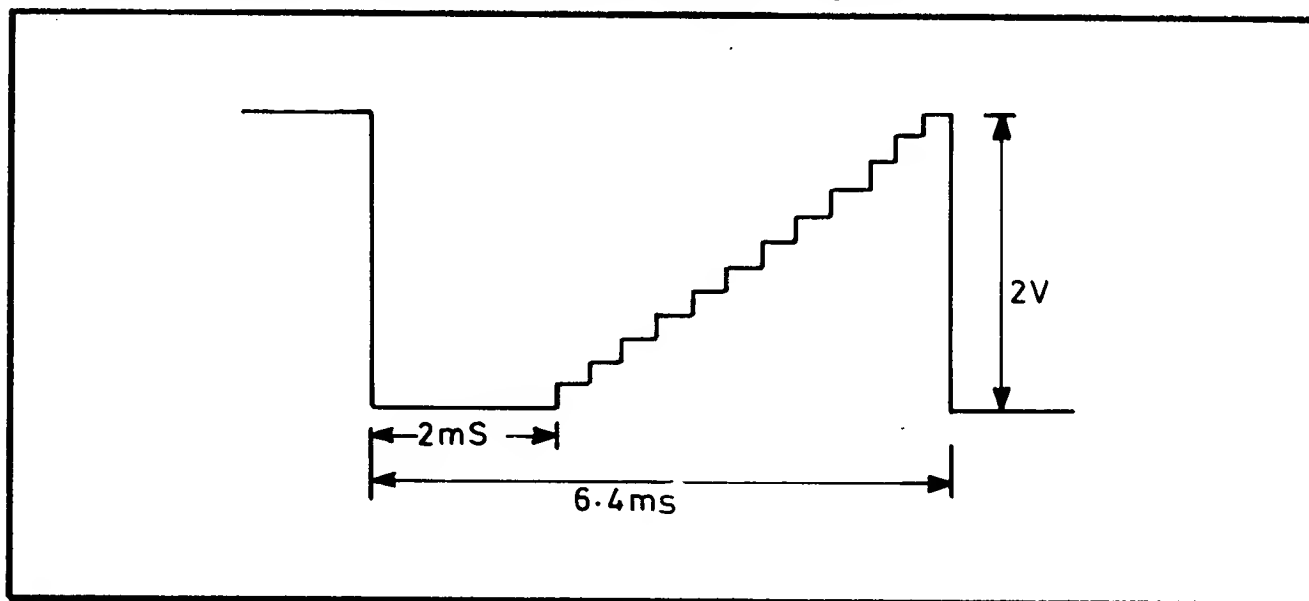

Fig 7.2 D-to-A Converter Sweep Waveform
7.4.8.1 Special function 36 provides a test waveform, in the form of a rising staircase at the output of each of the digital-to-analog converters on assembly 19-1043. The steps are not all the same height, but the outputs of all the converters should be identical. The waveform, which can be observed at test points 2 to 8, relative to the analog ground at TP1, is shown in Fig 7.2.